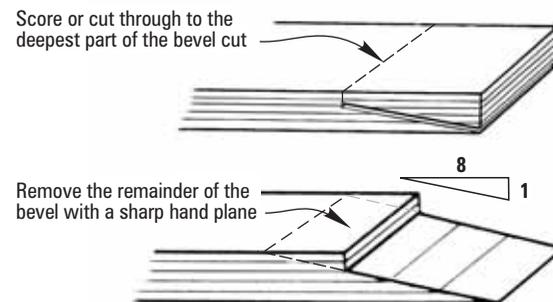

Figure 5
When cutting plywood thicker than  $\frac{1}{4}$ ", the blade won't reach all the way through the wood. The scarf must be completed with a hand plane. Figure 5 illustrates the procedure for finishing a scarf on edge of a partially cut, thicker panel.
1. To complete the cut, flip the plywood over on the bench. Score the plywood with a straight edge and knife above deepest part of the cut. Break away the scrap. If the plywood is very thick, you may have to make a shallow saw cut instead (See Figure 5).
2. Locate and mark the back edge of the 8-to-1 bevel (where the blade would have come out if it were a larger diameter). Multiply the plywood thickness by 8 (if the blade angle was set at  $0^\circ$ ). Then measure back from the edge that distance. For example, on  $\frac{3}{8}$ " plywood the back edge of the cut is 3" from the panel edge ( $8 \times \frac{3}{8} = 3$ "). On  $\frac{1}{2}$ " ply, the back edge of the cut is 4" from the panel edge (See Figure 5).